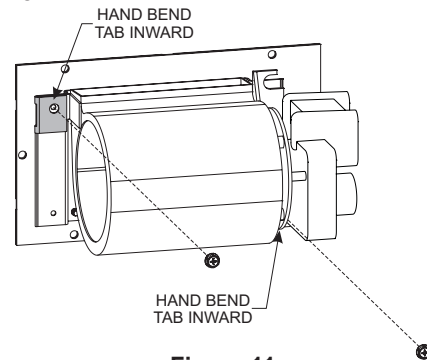

Figure 11
6. Bend tab as shown in (Figure 11) and secure with (2) screws.